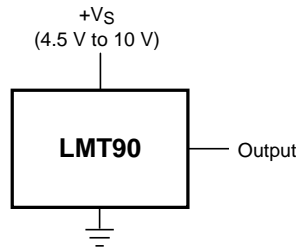

Figure 14. Full-Range Centigrade Temperature Sensor (–40°C to 125°C)
Unless otherwise noted, these specifications apply for  $V_S = 5 V_{DC}$  and  $I_{LOAD} = 0.5 \mu A$ , in the circuit of Figure 14. All limits  $T_A = T_J = 25^\circ C$ , unless otherwise noted.
- (1) Limits are specific to TI's AOQL (Average Outgoing Quality Level).
- (2) Accuracy is defined as the error between the output voltage and 10 mV/°C times the device's case temperature plus 500 mV, at specified conditions of voltage, current, and temperature (expressed in °C).
- (3) Non-linearity is defined as the deviation of the output-voltage-versus-temperature curve from the best-fit straight line, over the device's rated temperature range.
- (4) Regulation is measured at constant junction temperature, using pulse testing with a low duty cycle. Changes in output due to heating effects can be computed by multiplying the internal dissipation by the thermal resistance.
- (5) Quiescent current is defined in the circuit of Figure 14.
- (6) For best long-term stability, any precision circuit will give best results if the unit is aged at a warm temperature, and/or temperature cycled for at least 46 hours before long-term life test begins. This is especially true when a small (Surface-Mount) part is wave-soldered; allow time for stress relaxation to occur. The majority of the drift will occur in the first 1000 hours at elevated temperatures. The drift after 1000 hours will not continue at the first 1000 hour rate.